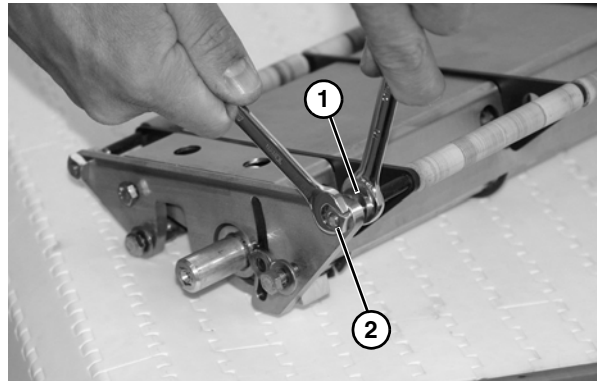

Figure 35
- While holding onto inner nut (**Figure 35, item 1**), install and tighten outer nut (**Figure 35, item 2**).